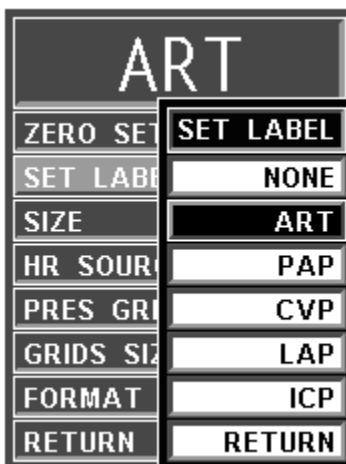

Figure 4-7. Invasive Pressure SET LABEL Menu
- b. **SET LABEL.** (See Figure 4-7) Scrolls through a list of labels to be put next to the mean pressure numerics to help the user to identify the transducer site. The options are ART, PAP, CVP, LAP, ICP, and NONE (default). The selected label, not only becomes the Pressure Channel menu title, it determines the color of the visual display. If **NONE** is selected, the Menu-Select Icon highlight is White; **ART** is Pink, **PAP** is Yellow, **CVP** is Blue, **LAP** is Purple and **ICP** is Blue. If operating a dual monitor system, with a 3155A and 3155MVS communicating with the 3150(M), the adjustments made here are interactive between the two 3155 monitors to ensure that the monitored parameters remain consistent between all components of the MRI monitoring system.